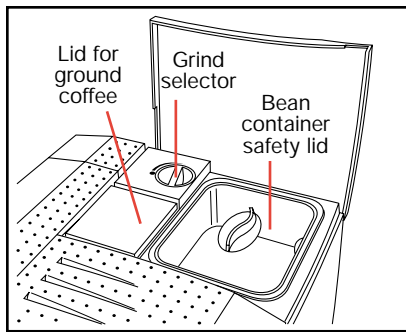

Fig. 4
2. Bean container safety lid (Fig. 4)
17. Lid for ground coffee (Fig. 4)
18. Grind fineness selector (Fig. 4)